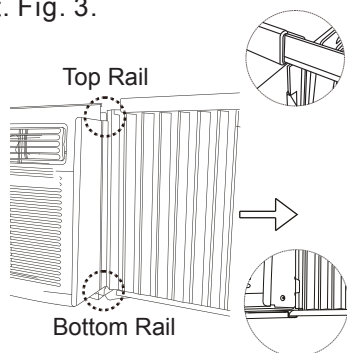

Fig. 3
- C. Once the panel has been installed on the side of the cabinet, make sure it sits securely inside the frame channel by making slight adjustments. Slide the top and bottom ends of the frame into the top and bottom rails of the cabinet. Fig. 3.